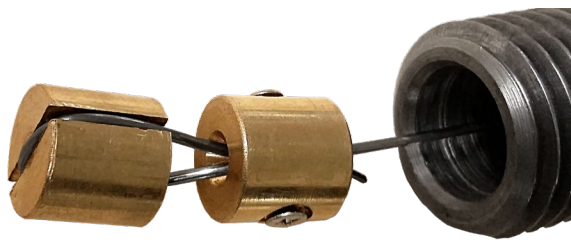

Figure 17 - End Block and Wire Clamp Assembly
- 3) Loop the end of the stainless steel wire around the groove in the end block then slide it back through the wire clamp until it emerges on the other side. Push the wire clamp and the end block as close together as possible then tighten the two Phillips head screws to secure the wire in place. Figure 17 shows the completed end block and wire clamp assembly.